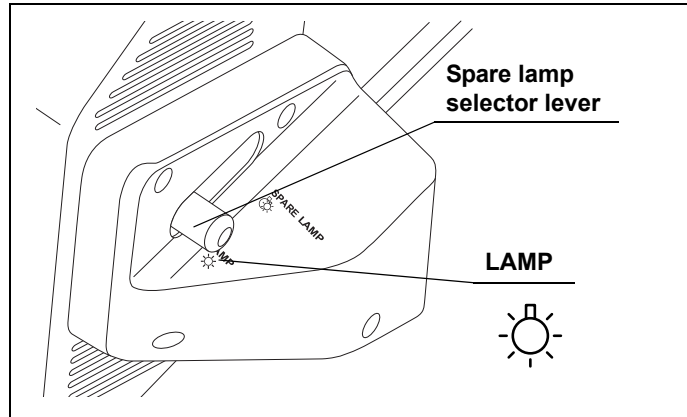
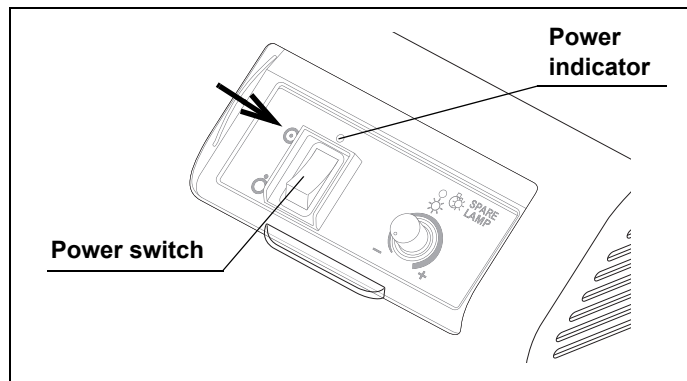
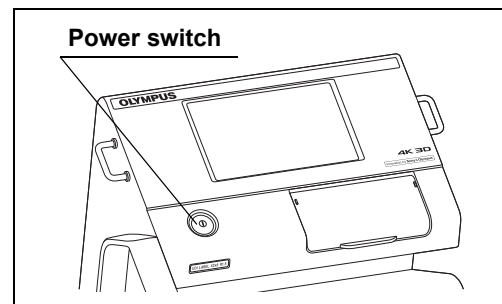

Figure 5.1
Figure 5.2
Figure 5.3
- 1 Confirm that the spare lamp selector lever is set to “LAMP” (see Figure 5.1) and that the power switch of this instrument is set to “⊙ (ON)”. (See Figure 5.2)
- 2 Referring to the instruction manual for the surgical microscope, turn it ON (see Figure 5.3). This instrument is turned ON and the illumination lamp is lit. In addition, the power indicator of this instrument lights up green. (See Figure 5.2)